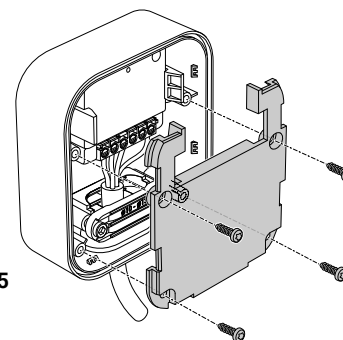

Figure 5
- 6 Refit the intermediate plate and screw it in place with the 4 screws provided - see **figure 5**.